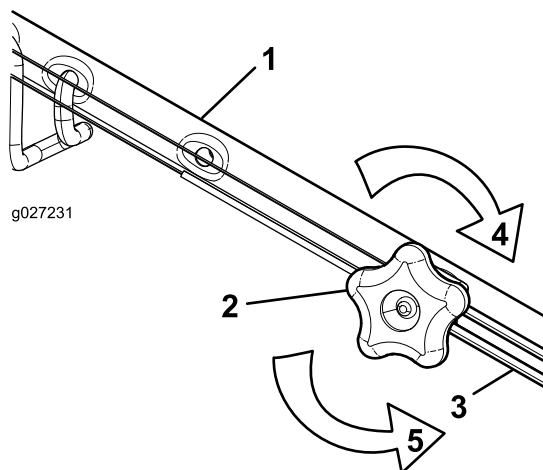

Figure 45
1. Turn the adjustment knob counterclockwise to loosen the cable adjustment (Figure 45).
2. Adjust the tension on the cable (Figure 45) by pulling it back or pushing it forward and holding that position.